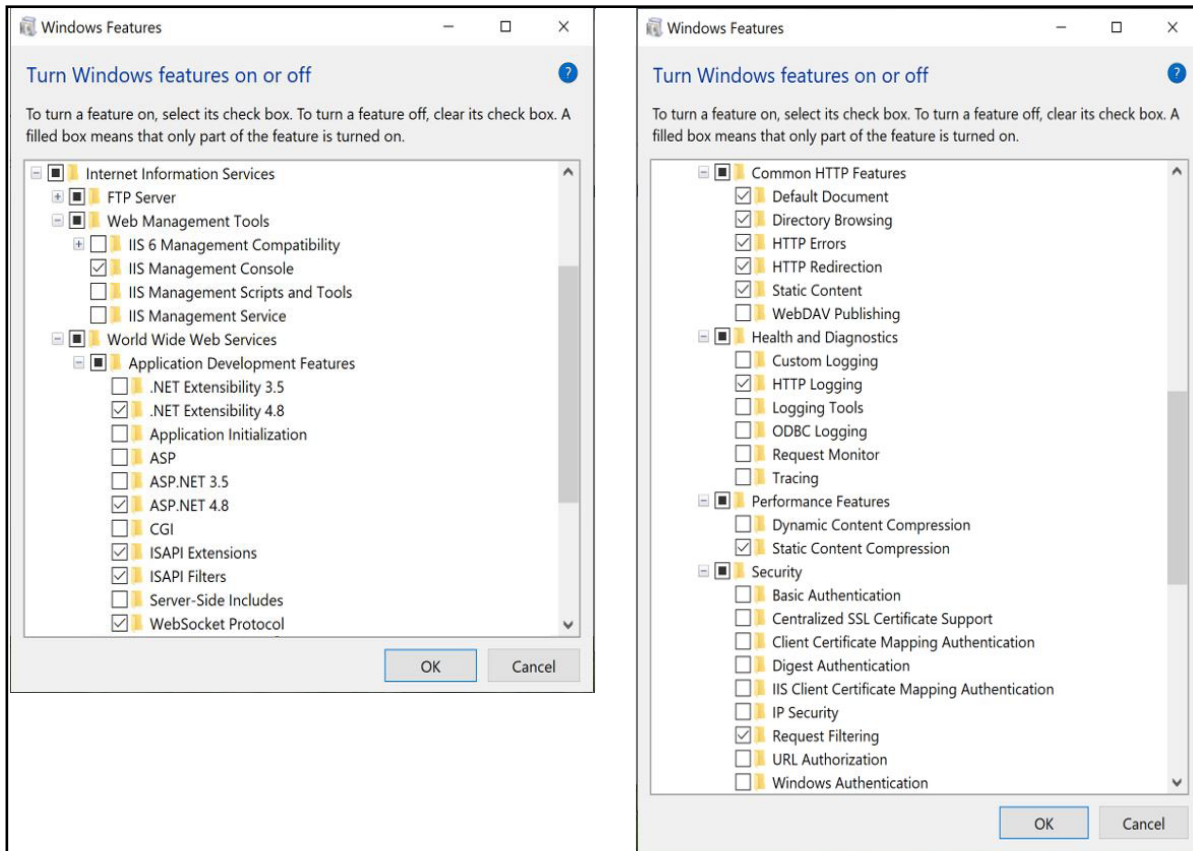

Figure 2-6. Windows Features Configured
- Windows Features window displays (see Figure 2-6 on page 12).
B.2 Expand **Internet Information Services** tree and enable check boxes as displayed in Figure 2-6.